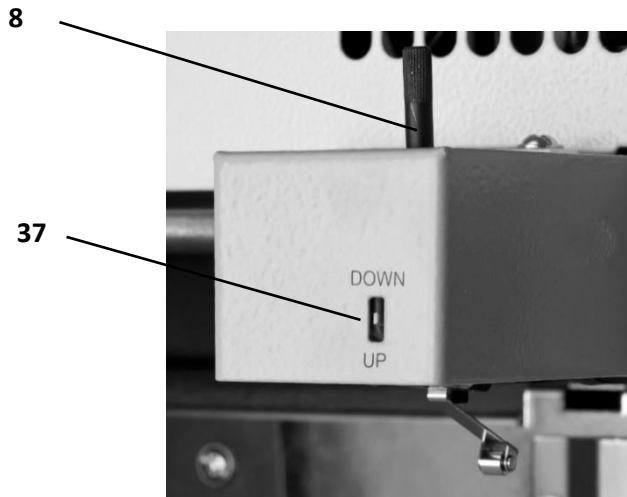

Fig. 9: Setting the Table Upper Position
Use the table position regulation screw (8) to set the table upper position. With default settings, the gauge (37) is approximately in the centre of the hole (Fig. 9). The table upper position may need to be changed when paper wave needs to be eliminated. Also, change the setting when you change paper thickness. For thicker paper the table upper position will be closer to the feeding head. Consequently, use the regulation screw to move the gauge in the direction of the UP position.
The Numerical field next to **FEEDING TABLE DROP** serves for the setting and final ‘resting’ position of the feed table before the feeding process, as it rises to the top (engages micro switch) then slightly ‘drops’ prior to the start of a working cycle. Timespan adjustment for **FEEDING TABLE DROP** is 0 – 2 seconds of movement. If the set value is 1 second, the feeding table terminates its upward movement after pressing the micro switch of feeding head (Fig. 9) and then continues moving downwards for the time period set (1 s = 8 mm). The value of this drop should be set with respect to the correspondence of levels of top layer of processed paper and Front Air Blowers. Top sheets (6 – 12 pcs) must stop approximately in the middle of blowers. Same as for **SHEET FANNING** values also **FEED TABLE DROP** must be set with respect to extent of Front Air Blowers opening.